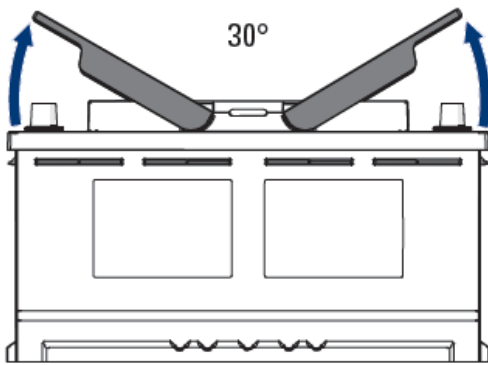

Figure 9: Remove the handle covers
1. Remove the handle covers, see Figure 9.